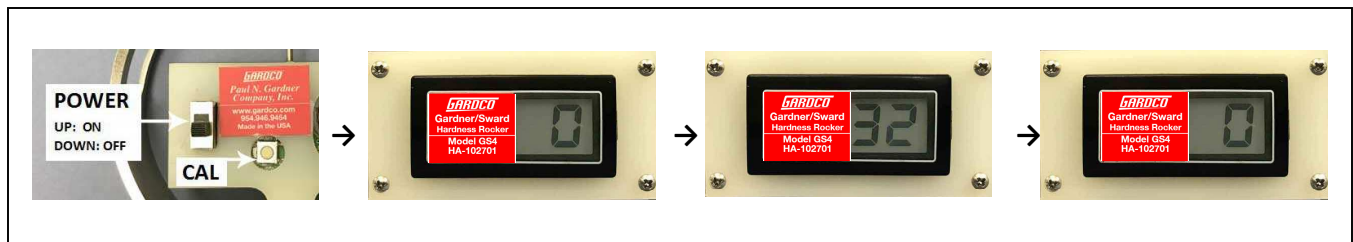

Figure 3 – Operation Mode, Current Firmware Version
2.1 Enabling the Operation Mode. To enable the **Operation Mode**, slide the **POWER** switch to the OFF position; then, to the ON position, without pressing the **CAL** pushbutton. Note that on start up, the Rocker's display briefly shows the current Firmware Version as illustrated in **Figure 3**.